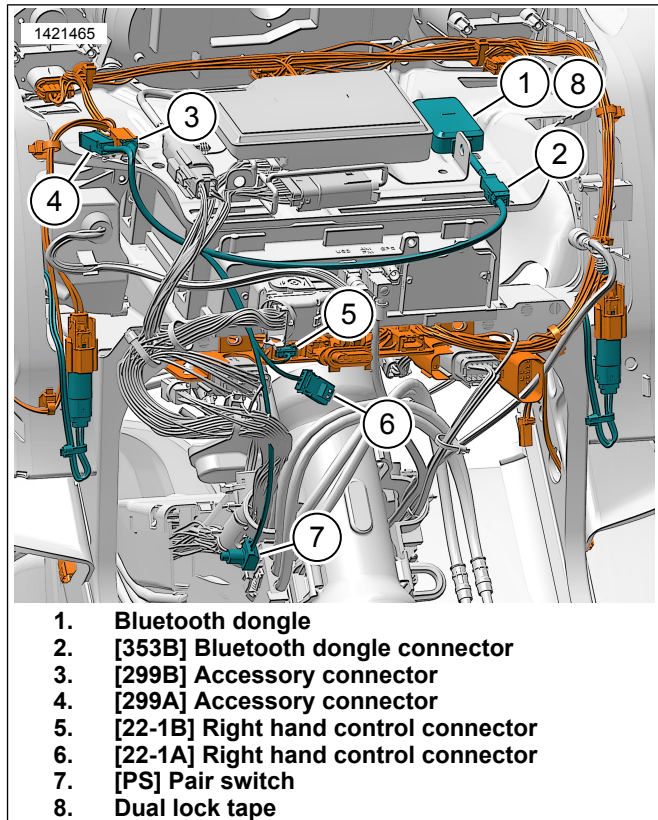

Figure 6. Fork Mounted Fairing Bluetooth Dongle Harness (2014 and later)
1. See Figure 6. Install and route bluetooth dongle harness under fairing.